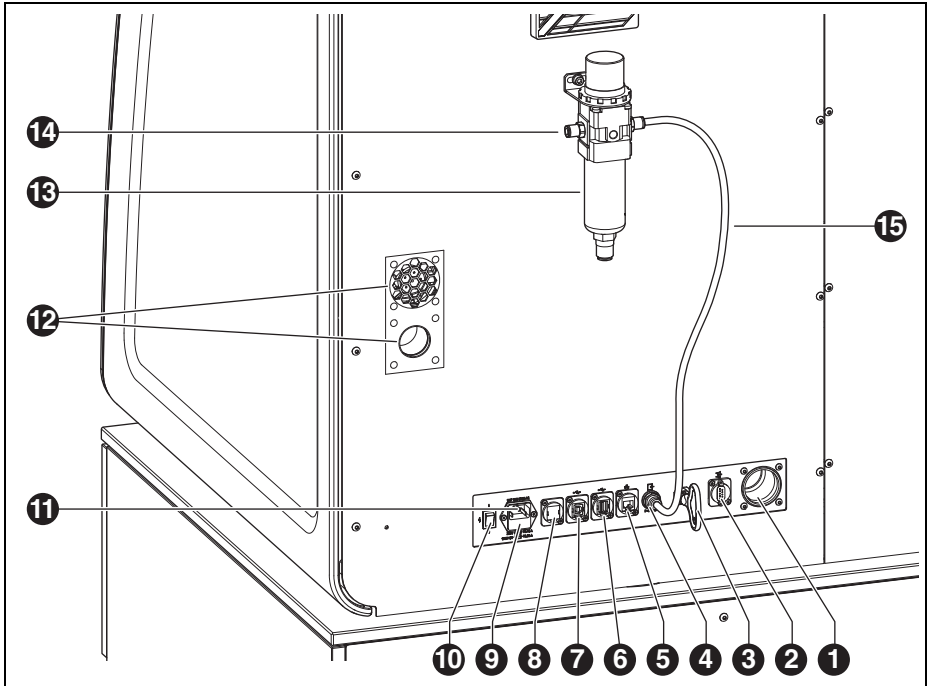
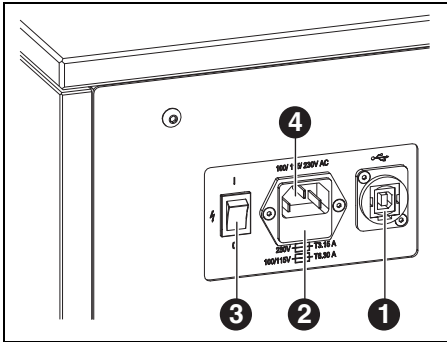

Fig. 5 Overview, rear side of milling system
Fig. 6 Overview, Ceramill Cleanstream connections
- ▷ Pull out the drawers on the rear of the Ceramill Matik and Ceramill Cleanstream below the mains plugs (see figure 5 [9] and figure 6 [2]).